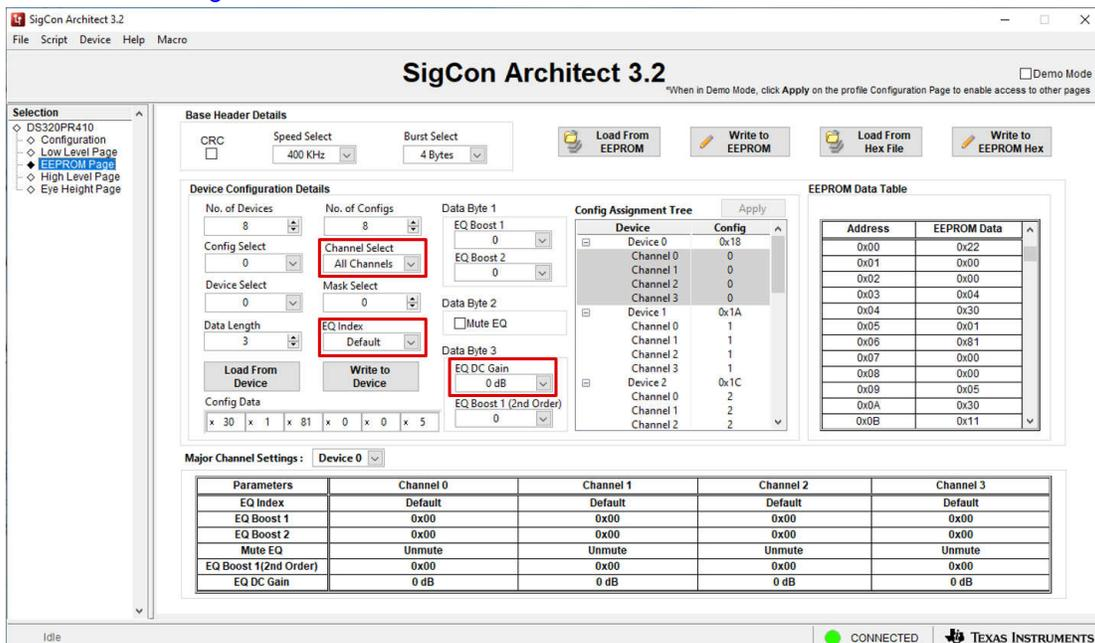

Figure 4-3. EEPROM Page: Channel Select, EQ Index, and EQ DC Gain
- To select the desired channel or channels, choose an *EQ Index* from the drop-down menu. The *EQ Index* drop-down automatically adjusts the *EQ Boost 1*, *EQ Boost 2*, and *EQ Boost 1 (2nd Order)* fields. Select the desired *EQ DC Gain*. Note in the *Config Assignment Tree* that the channels of Device 0 selected using the *Channel Select* drop-down menu are configured using Configuration 0. Continue this process for each *Device* and *Configuration*, selecting the appropriate *EQ Index* and *EQ DC Gain* for each. Each of these drop-down menus are shown in Figure 4-3.